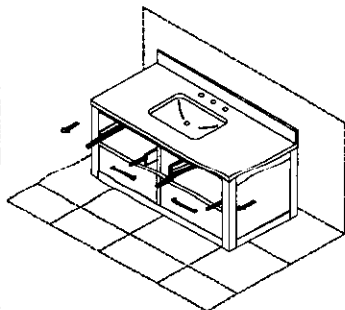

Figure 6
- Fully extend the slide rail out. See Figure 6.